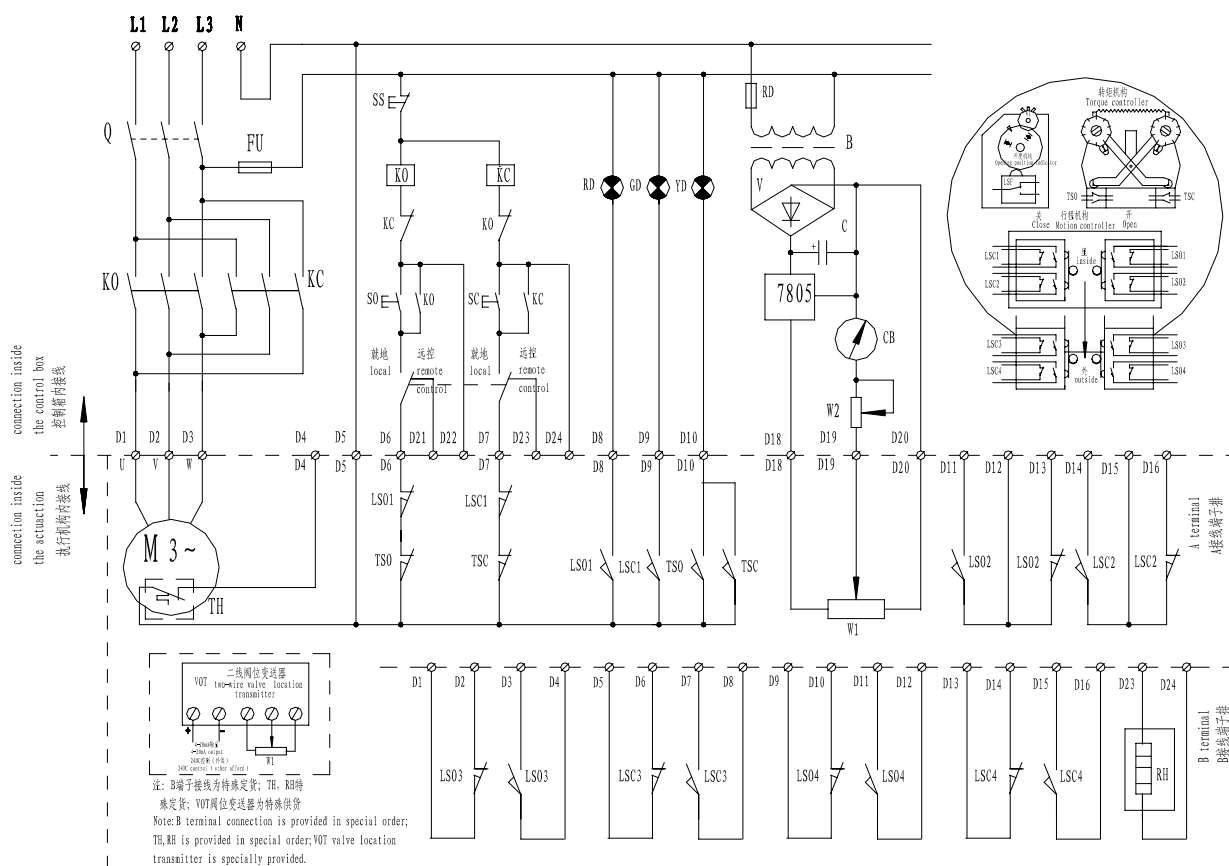

图 4 Figure 4
6.1.1 Q 型电动执行机构户外型、隔爆型电气控制原理图见图 4。
Refer to Figure 4 for the electric control principles of outdoor type and explosion-proof type of Q type electric actuator.